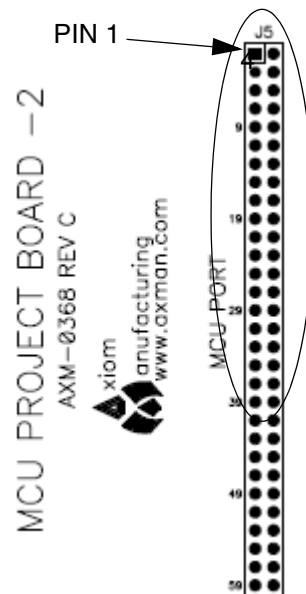

Figure 2. Installation of MC9S12C32 MCU Application Module
5. Install the MC9S12C32 MCU application module in the MCU PORT connector (J5) on the project board. Align pin 1 on the application module with pin 1 of the MCU PORT connector on the project board as marked by Figure 2.